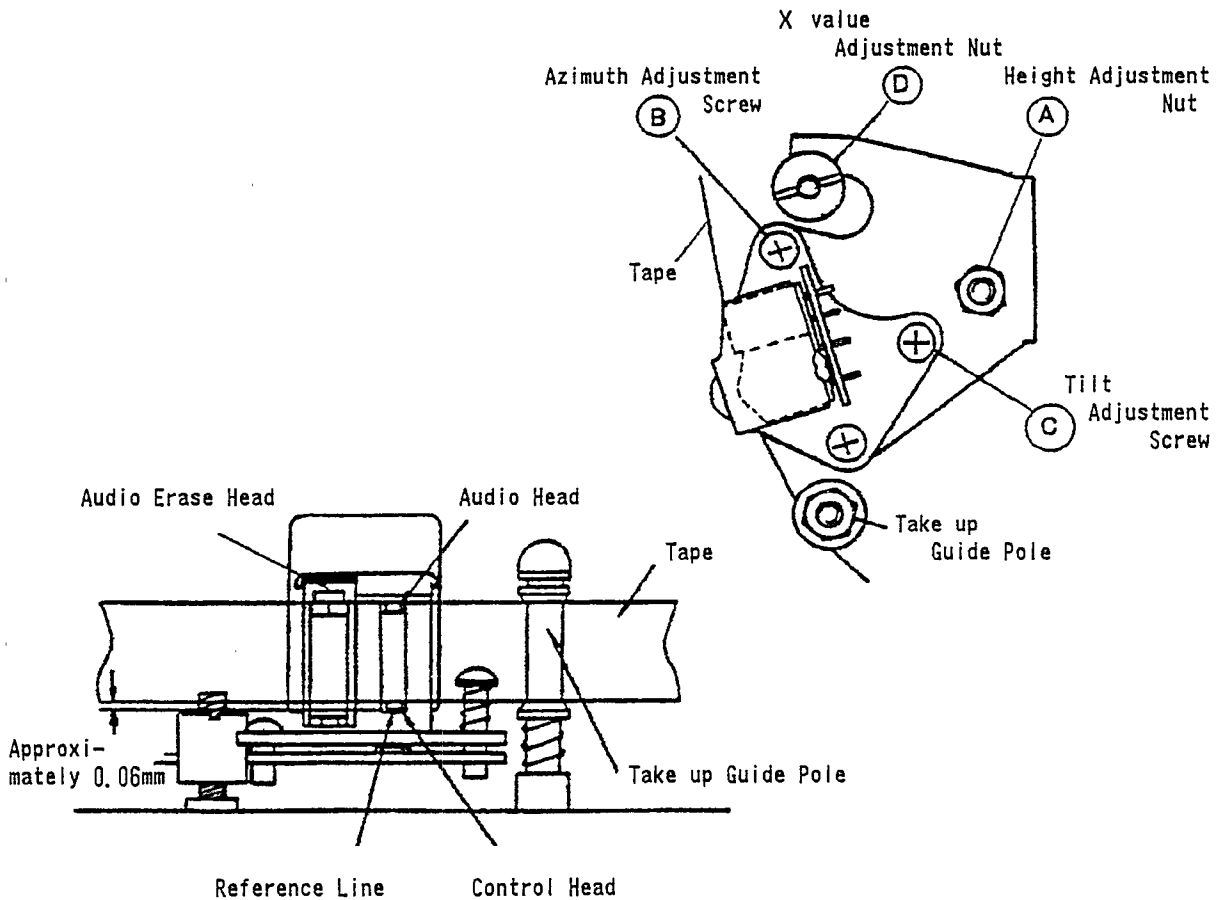

Fig. 5-7
2. Adjust the height of the edge of the audio track on the audio control head by using the height adjustment nut \textcircled{A} and the tilt adjustment screw \textcircled{C} so that the tape transport is smooth at the take-up guide pole. Align the audio control head height. (Refer to Fig. 5-7).
2. Confirm that the tape running between the take-up guide roller and the audio control erase head has no slack. If the tape has slack, take it up by turning the tilt adjustment screw Ⓒ. (Refer to Fig. 5-7.) Then readjust GUIDE ROLLER HEIGHT in section 5-2 and the X value in section 5-4.
3. After confirming on the oscilloscope that a 1 kHz audio signal is being output by playing back F6-A test tape, adjust the height adjustment nut Ⓐ so that the AC voltmeter's reading is brought to its maximum level. (Refer to Fig. 5-7.)
1. After confirming on the oscilloscope that an audio signal is being output by playing back F6-N test tape, adjust the azimuth adjustment screw ⑤ so that the AC voltmeter's reading or oscilloscope waveform is brought to its maximum level (Refer to Fig. 5-7).
Note: Fix the screw ⑥ with lock paint after readjustment (Refer to Fig. 5-7).